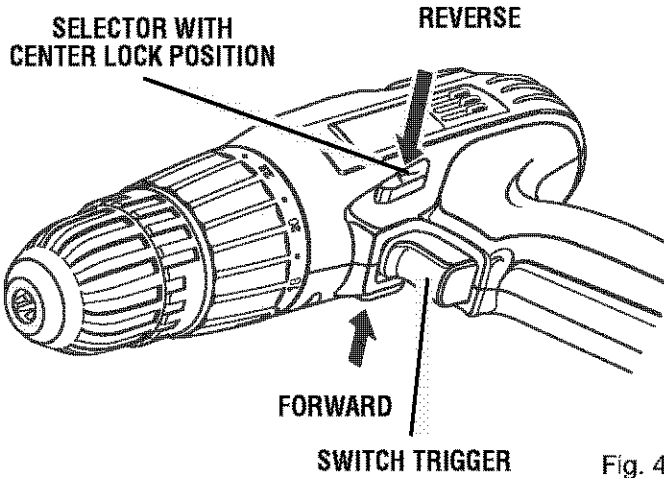

Fig. 4
- Lock switch trigger on this drill by placing the direction of rotation selector in center position. See Figure 4.
- Lock switch trigger on your drill by placing the direction of rotation selector in center position. See Figure 4.
See Figure 4.
- Lock the switch trigger by placing the direction of rotation selector in center position. See Figure 4.